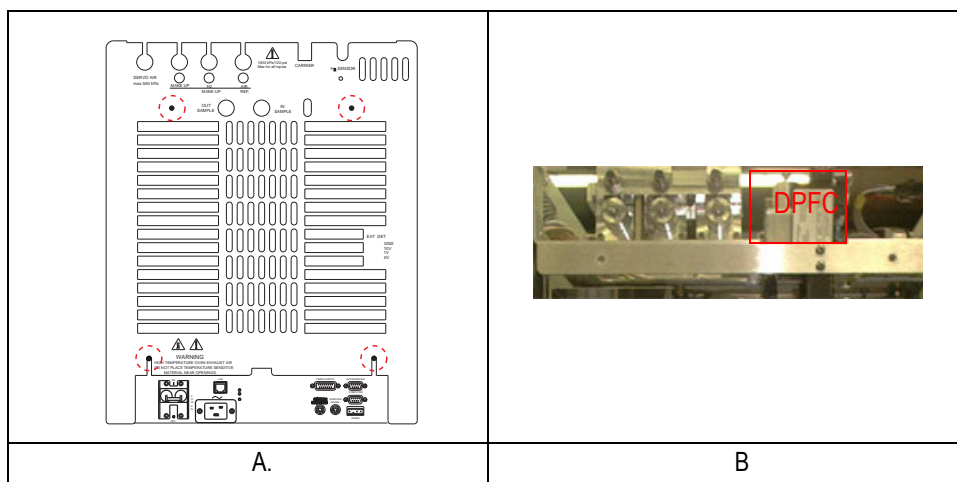

Figure 15-7. FOCUS GC Rear Panel
4. Unscrew the four Allen fixing screws, as shown in A of Figure 15-7.
6. Identify the DPFC module. See B of Figure 15-7.